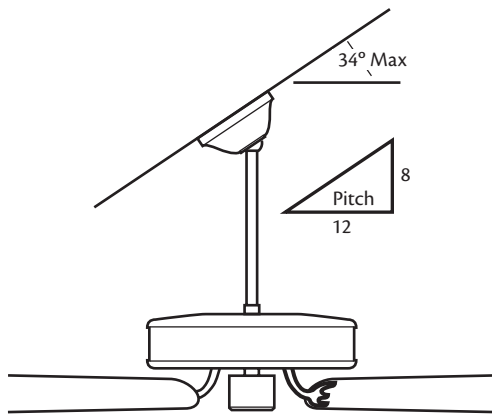

Figure 2 - Angle mounting
**Angle Mounting** (Figure 2) hangs from a vaulted or angled ceiling.